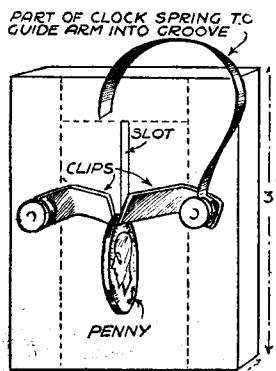

Fig. 7.—Showing a coin held between the contact strips.
Another application to which this new Westector lends itself is shown in Fig. 7, where it is used to obtain an A.V.C. voltage from the anode of an existing detector valve. The Westector is connected to the anode of the valve in place of the usual H.F. by-pass condenser, and the H.F. used to generate a voltage across the load resistance R. This voltage is fed back to the grid of the preceding variable- μ valve to obtain A.V.C. in the usual manner.
To make this device, an alarm clock, an old .0005 variable condenser, a piece of three-ply wood, 7in. by $\frac{1}{2}$ in., two spring clips, two small brass strips, four small cubes of wood, a pair small hinges, and a few screws and bolts are required. First of all, get a piece of $\frac{1}{2}$ in. plywood 14in. by 9in., and cut a hole in it the exact size of the glass of the clock. Then cut a second piece of plywood into a hexagon with sides about 3in., and in that cut a hole just large enough to allow the minute marks on the dial to be seen from the front when the clock is fixed. Glue this piece on to the 14in. by 9in. piece in the exact position; that is, at the other hole. Now screw the clock at the back on to the front piece (the case is off and the feet and the ring holes are bent to allow for screwing) with three screws. Measure along from the winding screw of the clock about $3\frac{1}{2}$ in. and cut a hole 3in. by 1in. When that has been done, take a piece of wood about 8in. by $\frac{1}{2}$ in. and cut two pieces 3in. and two 1in. long, then with them make a box as shown in Fig. 7. Glue that behind the hole in the front piece, leaving the hole flush. Get a small piece of 3-16in. plywood of suitable size to cover the box already made and fix on the spring clips so that the opening at the extreme ends of the clips is slightly narrower than the two brass strips, which are about $1\frac{1}{2}$ in. long by $\frac{1}{4}$ in. wide, and must be slightly thinner than the penny. Bend both ends at right angles to each other, as shown in Figs. 3 and 4. Next take the 7in. by
Messrs. Ferranti employ two alternative methods. Namely: (1) A multiple circuit of some twenty effective turns obtained in the manner already described (Method D), in which the upper part of the circuit consists in a number of hoops of copper rod, the prongs of which dip into mercury cups when the circuit is closed, the said cups being interconnected in such manner as to provide as many turns as there are hoop. Figs. 7 and 8. It has already been pointed out that a weakness of this system is the low conductivity of mercury (about 1/100th that of copper). And (2) a transformer system of which the following figures may be taken as typical:—